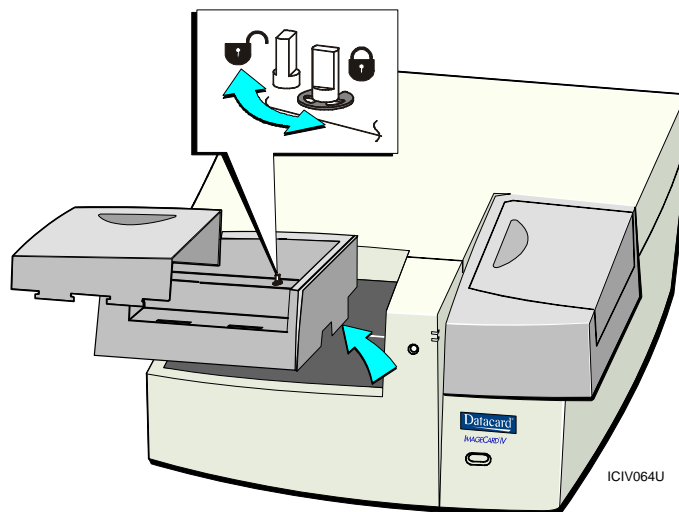

Figure 3-9: Remove the card input tray
- 1 Remove the cover of the input tray. If the tray has a latch, turn the latch one-quarter turn counterclockwise to release the tray (Figure 3-9).
- 2 Lift the input tray and set aside (Figure 3-9).